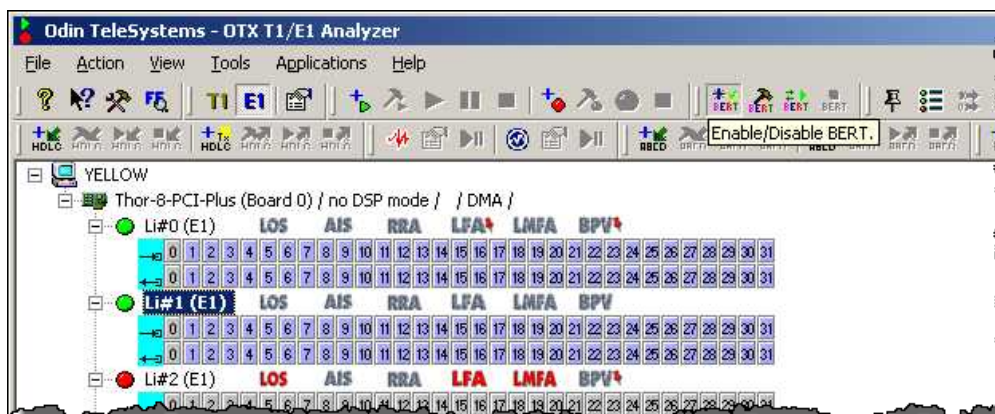

Figure 24 Enable BERT.
5. If both LED indicators (from the left of Li0 и Li1 in our example) are colored green, you can perform BERT testing. To do this set the "Li#0 (E1)" as the scope of operations and press "+BERT" icon on the toolbar ("Enable/Disable BERT." prompt) (See Figure 24).